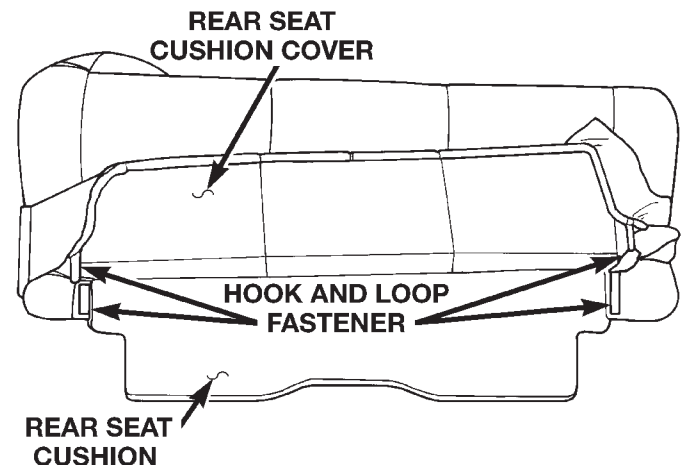

Fig. 7 Hook And Loop Fasteners
- (1) Remove rear seat.
- (2) Remove the seatback.
- (3) Disengage the J-straps at the rear cushion corners.
- (4) Disengage the seat cushion cover zipper.
- (5) Carefully, remove the seat cushion frame from the cushion/cover.
- (6) Roll the cover from seat cushion and disengage the hook and loop fasteners (Fig. 7).